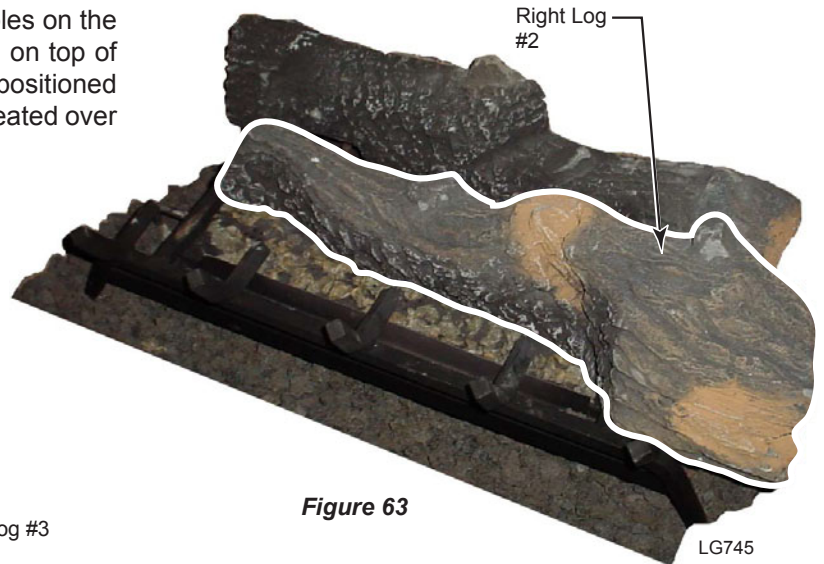

Figure 63
- Place Right Log #2 by matching the two holes on the bottom of the log with the two pins located on top of the burner. When this log is in place it is positioned at an angle and the right side of the log is seated over the right tong of the grate. *Figure 63*